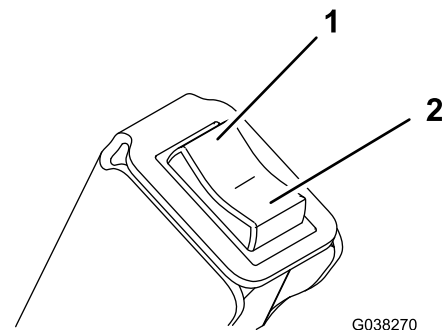

Figure 12
2. Dump the hopper by pushing the top of the dump switch (Figure 12).
3. Lower the hopper by pushing the bottom of the dump switch (Figure 12).